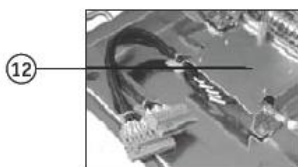

Figure 15.2
12. Auxiliary switches SQ1, SQ2 (see Figure 15.2)